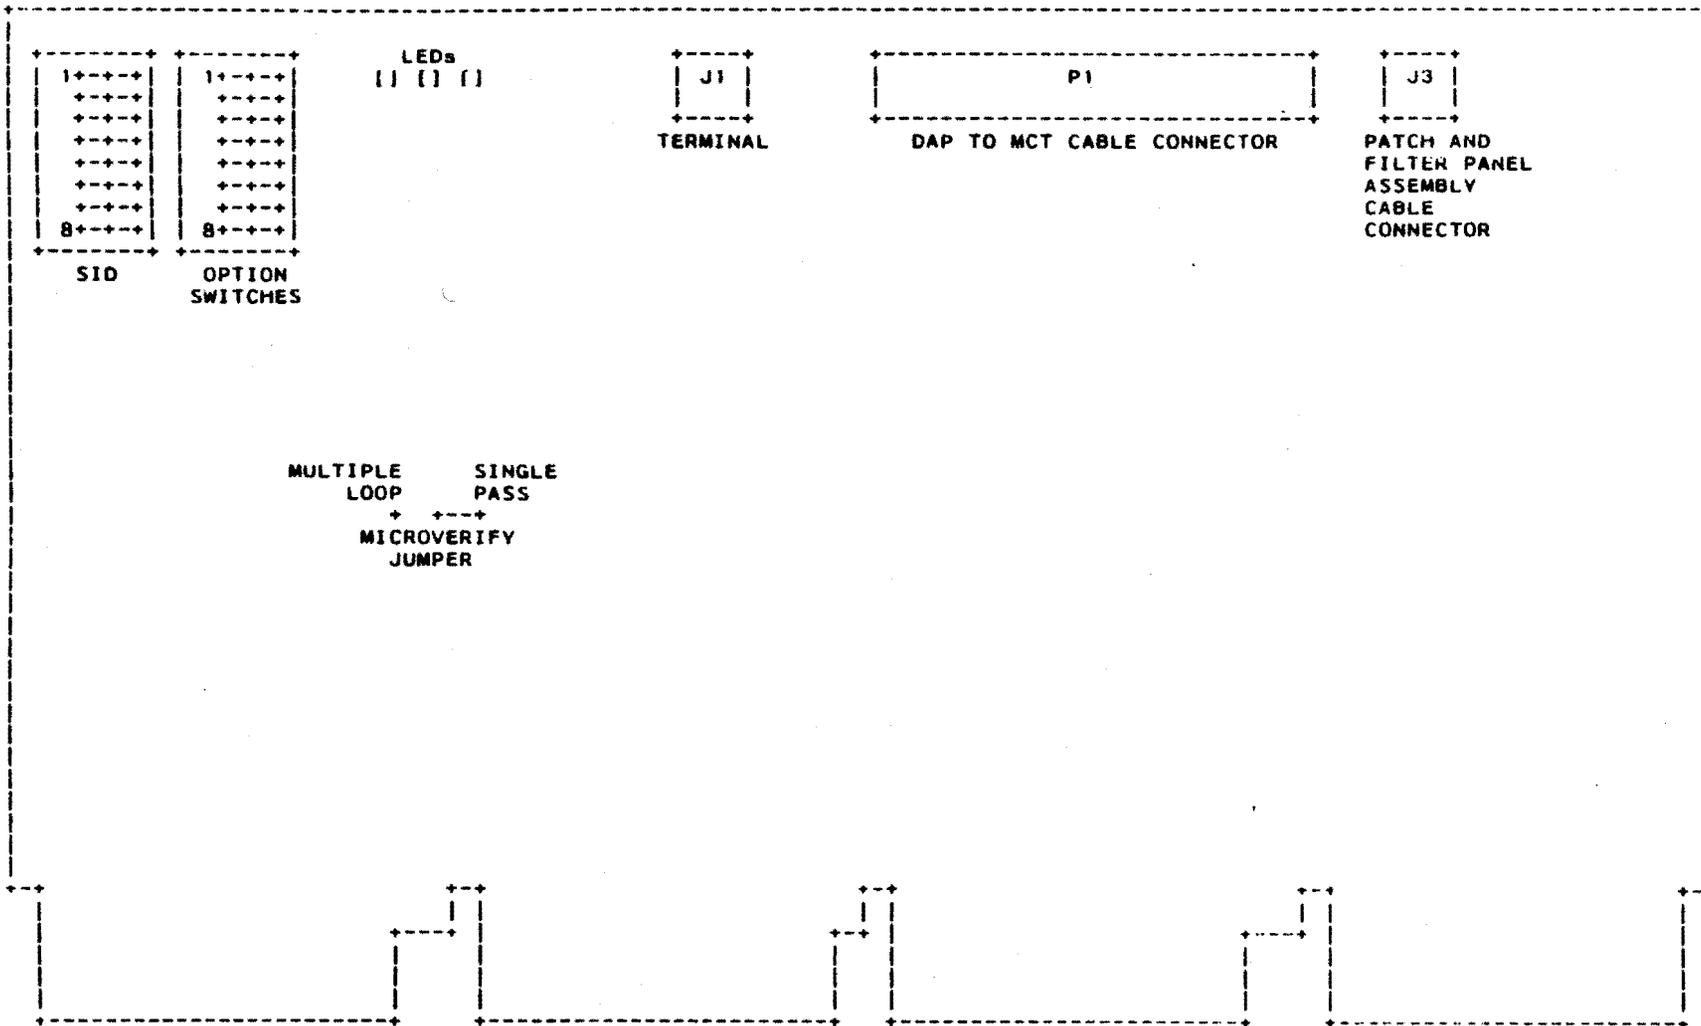

Figure 1-3: M7135-YA DAP Switches and Jumper
1.2.1.1 Switches - As Figure 1-3 shows, the DAP contains two sets of eight DIP switches and a single jumper. The SID register switches are used by manufacturing and should not be changed. Table 1-2 lists the Option switch functions and the normal setting for the VAXstation 1.
1.2.1.2 Microverify Jumper - This jumper determines the test mode for Microverify. The jumper is factory-set to single-pass mode (as shown in Figure 1-3). In the alternate jumper position, multiple-loop mode, DAP Option Switch 2 (Table 1-2) must be in the OFF (VT100 compatible) position (also see the NOTE -- VT100 Mode, below).